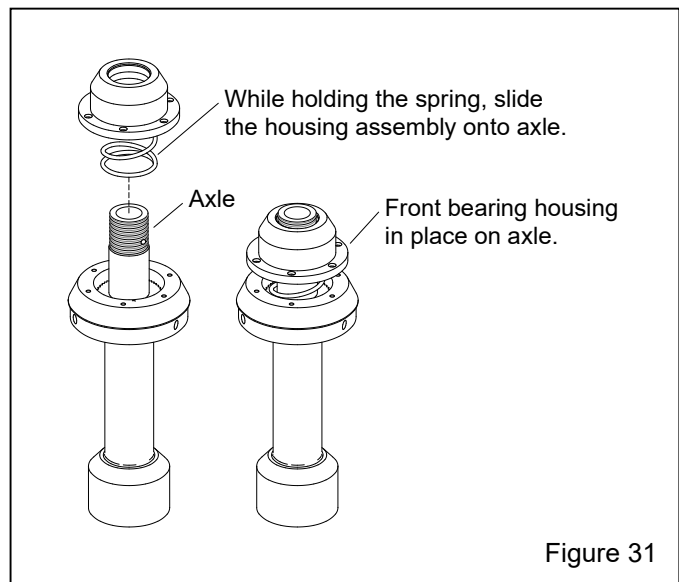

Figure 31
**9.3.5** Place the tube casing (drive cap up, as shown in Figure 31) securely in a vice.
**9.3.6** While holding the spring in place to prevent the spring bushing and bearing from moving, turn the housing assembly over and slide it onto the axle, as shown in Figure 31. NOTE: Make sure the felt is not damaged or pushed from the housing as the axle passes through. If necessary, use a small screwdriver to make sure the felt remains in place.